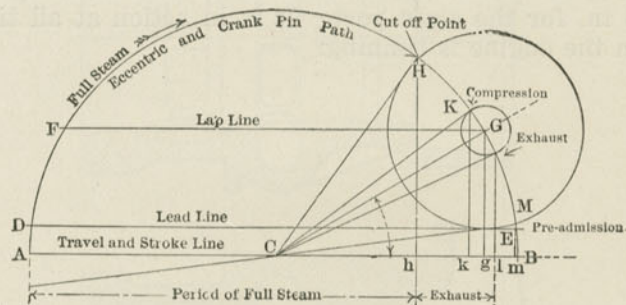

Fig. 166. Bilgram Valve Diagram.
*A.* According to Bilgram, by drawing a semicircle the diameter  $AB$  of which (Fig. 166) represents the piston stroke on one scale, the valve travel on another; drawing